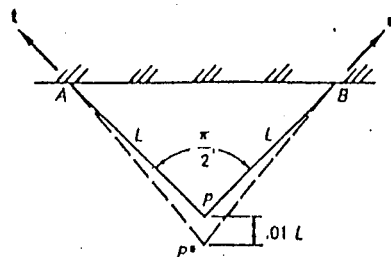

Fig. P2.32
2.32. A thin triangular plate is deformed as indicated in Fig. P2.32. Compute approximately the shear strain $\gamma_{xx}(P)$.